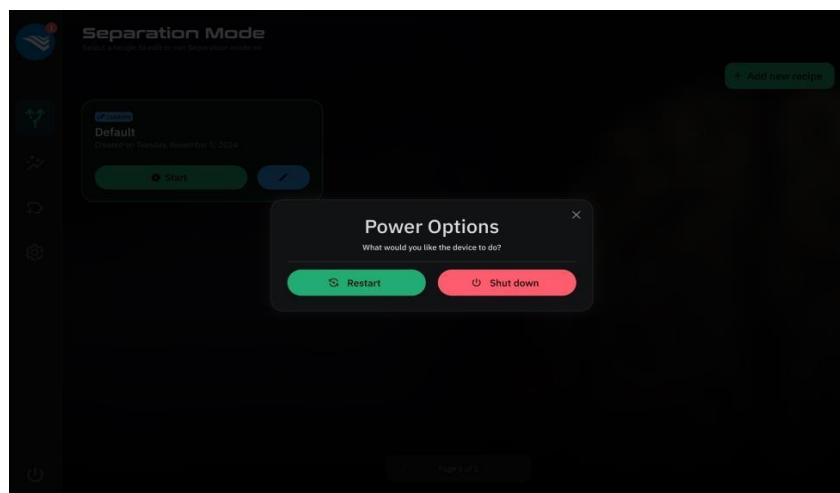

Figure 3.2: Power options
3. Choose **Restart** or **Shut Down** (Figure 3.2).